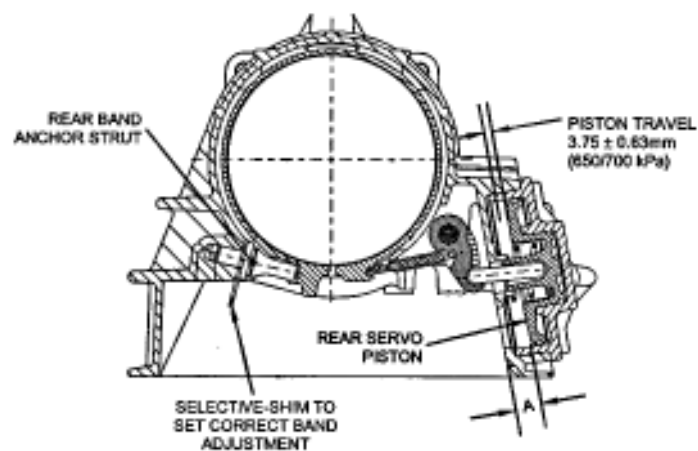

Figure 8.64 Setting of rear brake belt
- a. The setting of distance A is form the back surface of servo piston to inner surface of transmission, use the vernier caliper. Refer to Figure 8.64.
- ③ Release air.
- ① Check the shim for damage, worn or corrosion; replace it if necessary.
- ② The shim is installed on the support surface between the transmission and pole flange, refer to Figure 8.64.
- ③ Install the shim by hand, and not the hammer or pressure.
- ④ Press the shim by hand until has the click the noise. The noise means the shim is clamped by the housing correctly.